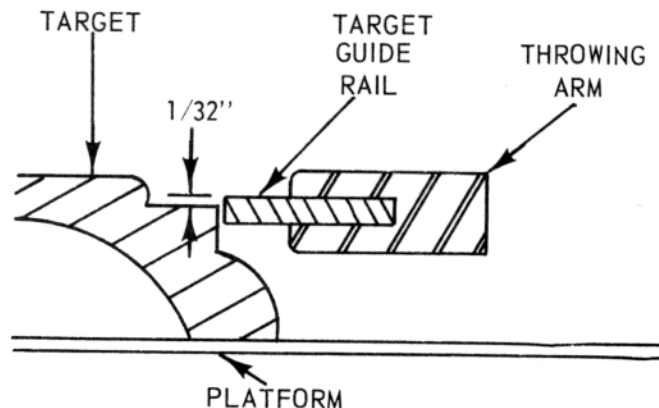

Figure 16 — Correct Guide Rail Height
- 2.2 Correct attitude is obtained by shimming between the throwing arm carrier and the top of the mainshaft assembly. The distance between the upper edge of the guide rail and the target shoulder should be approximately 1/32" (see Figure 16).